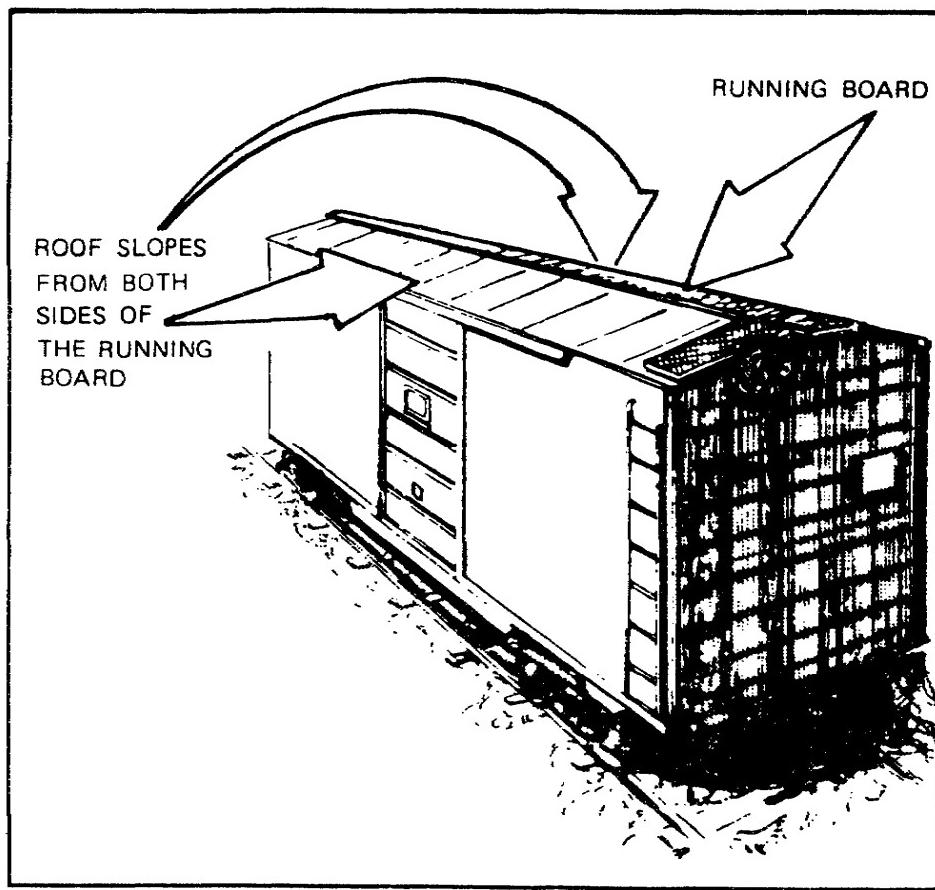

Figure 1-4. Railcar Roof with Running Board.
*Item 6.* When the interior inspection has been completed, begin your inspection of the railcar's exterior. Inspect the roof and the running board. Any condition that could start a fire, such as decay in spots or overall or broken boards must be reported on the Railcar Inspection Report as an unsatisfactory condition and the defect must be corrected or the car must be rejected. See figure 1-4.